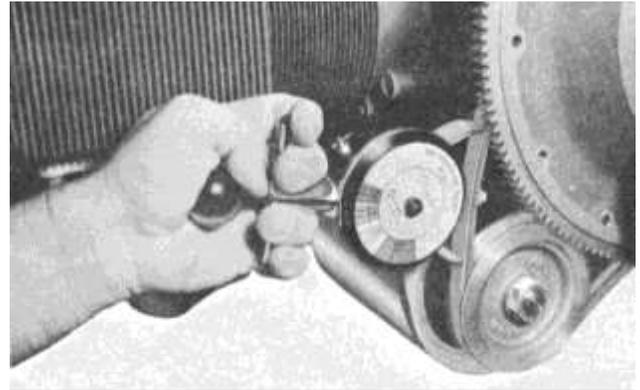

Figure 2
- (2) Deflection Method
(3) Belt Tension Dial Gage Method (using Lycoming tool number ST-131 (Figure 2):
- (a) Extend the hook on the Belt Tension Dial Gage ST-131 (Figure 2) to its extreme position by depressing the handle.